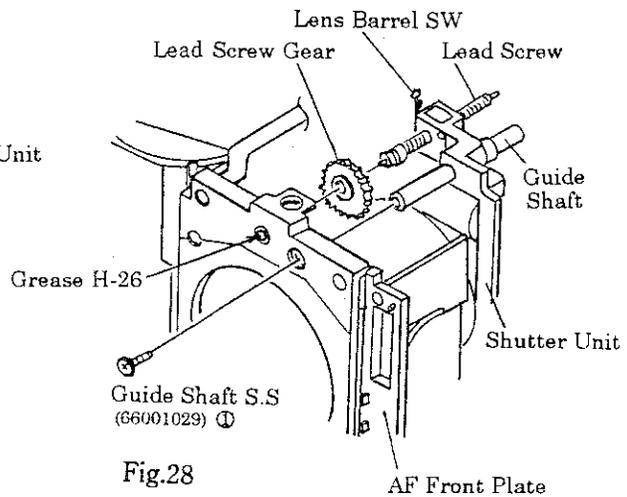

Fig.28
- Fig.28)
When installing the Lead Screw Gear, take care not to confuse the head and tail of the gear. (See Fig.28)